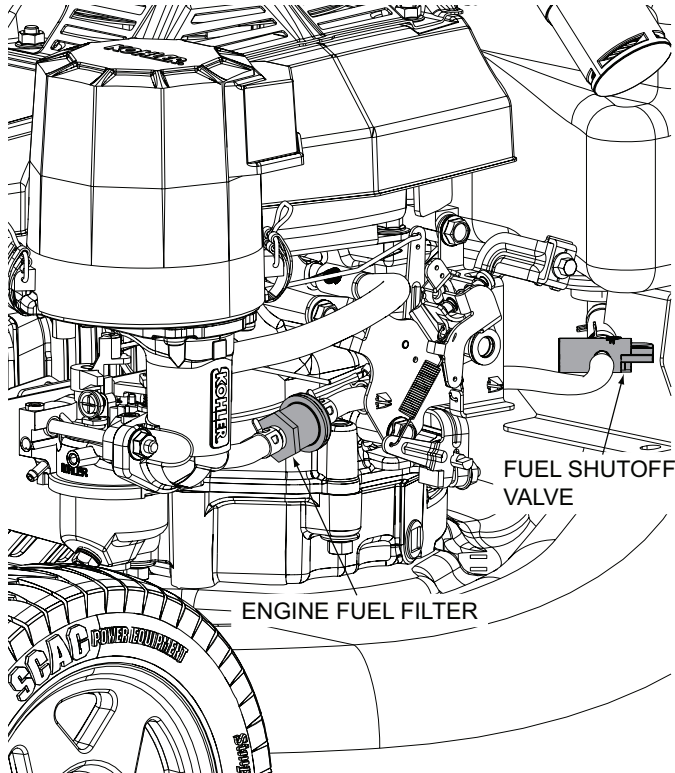

Figure 7-3. Fuel Filter
1. Close the shut-off valve. See Figure 7-3.